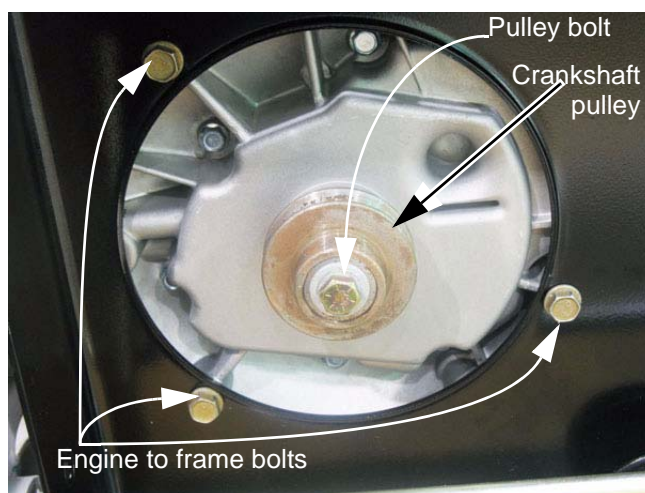

Figure 4.6
2.6. Remove the drive belt pulley from the engine crankshaft using a 5/8" wrench. See Figure 4.6.